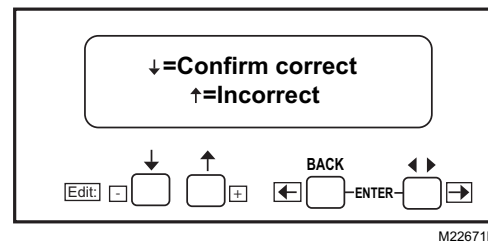

Fig. 20. Confirmation Correct screen.
22. Press the down arrow to confirm the correct post-purge time. "Getting Data" will be displayed until the screen in Fig. 20 appears.